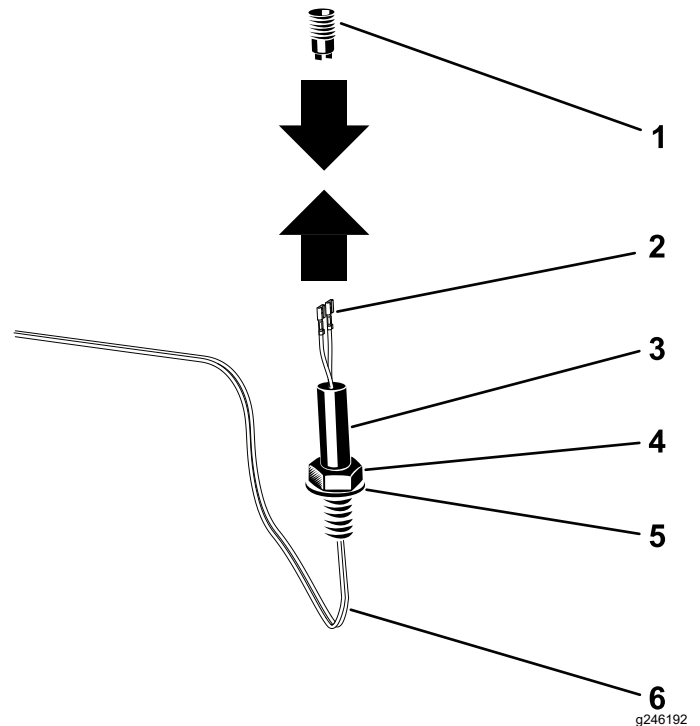

Figure 6
3. Route the wire harness up through the nut, washer, and beacon socket. Connect the terminals to the beacon connector (Figure 6).